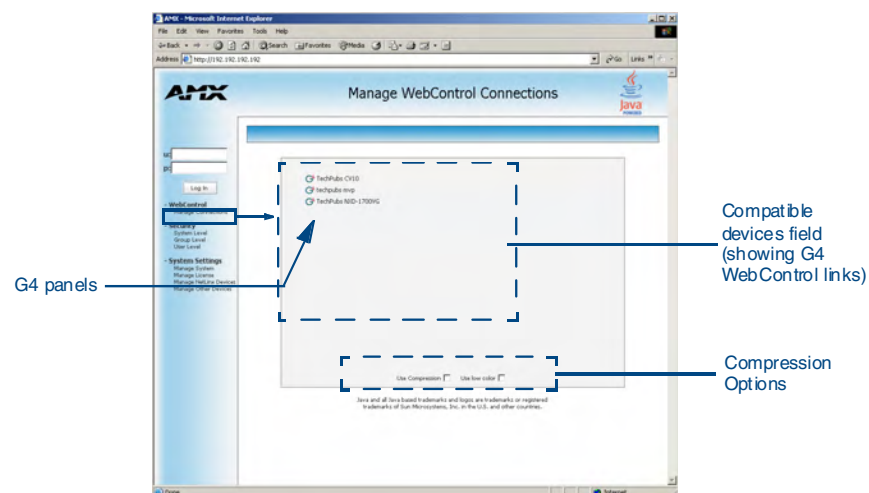

FIG. 45 Manage WebControl Connections page (populated with compatible panels)
4. Click **OK** to enter the information and proceed to the Master's *Manage WebControl Connections* window. This page (FIG. 45) is accessed by clicking on the **Manage connections** link (*within the Web Control section within the Navigation frame*). Once activated, this page displays links to G4 panels running the latest G4 Web Control feature that were previously set up and activated on the device.